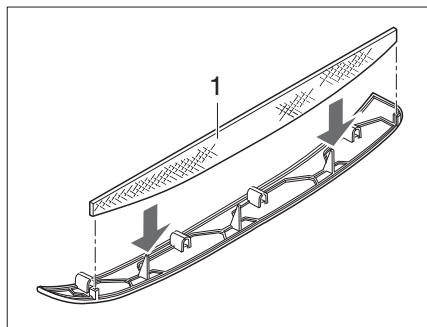
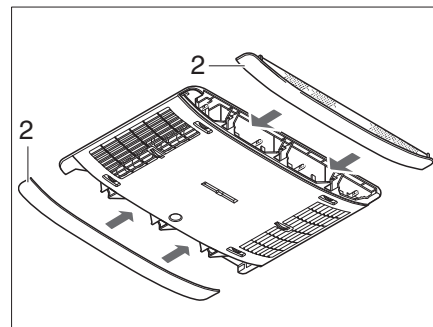

Fig. 156 Lint filter air conditioning unit
Fig. 157 Air conditioning unit panels
Two lint filters are located in the side panels (Fig. 157,2). The lint filters must be cleaned at regular intervals, at least every 6 months however, and replaced if necessary.
- Remove the panels (Fig. 157,2) from the air distribution unit and clean the lint filter (Fig. 156,1) or replace it if necessary.